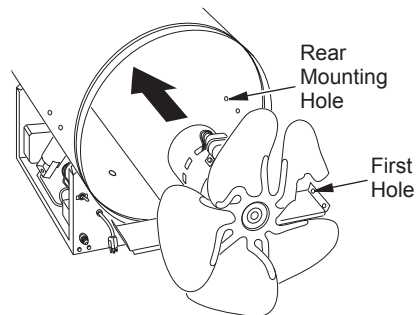

Figure 7 - Fan and Motor Turned Around
8. Turn motor and fan around. Place motor and fan into shell backwards. **Note:** Motor will go into shell first (see Figure 7).
9. Line up rear mounting holes in shell with first hole on each side of motor mount (see Figure 7). **Note:** When holes are lined up, fan should be outside of shell.